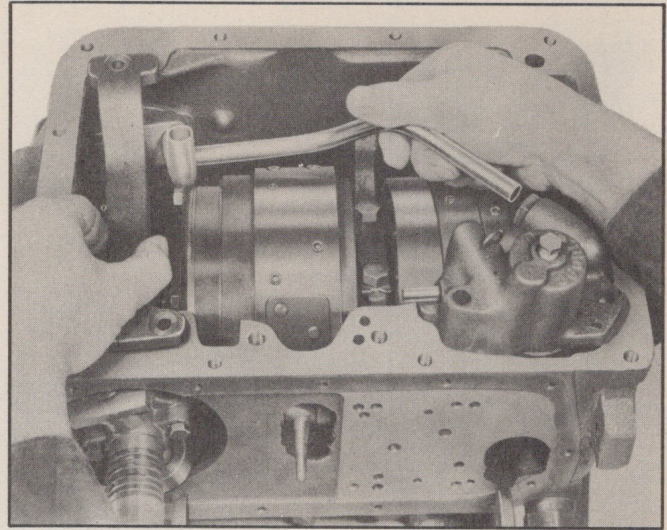

Fig. 303—Installing Rear Pump Discharge Pipe
4. Enter rear pump discharge pipe into passage in front servo and rear pump (Fig. 303).